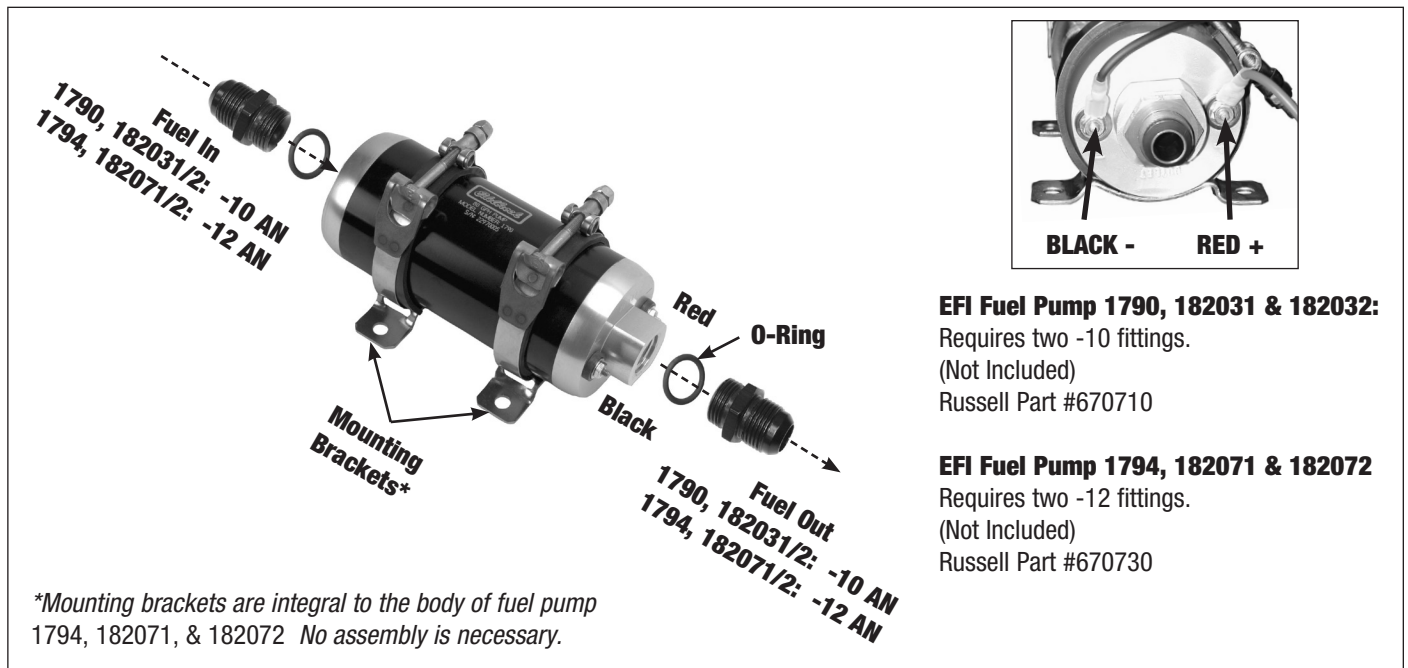

Figure 2 - Fuel Pump Fitting Assembly (1790 Pictured)
6. Install the fuel pump and bracket assembly in the desired location. Make sure the pump is facing the proper direction. The outlet is on the same side as the fuel pump's electrical connections (**See Figure 2**).
8. Install the o-rings and fittings (**fuel fittings and O-rings not included**) (**See Figure 2**) and connect to your fuel lines.